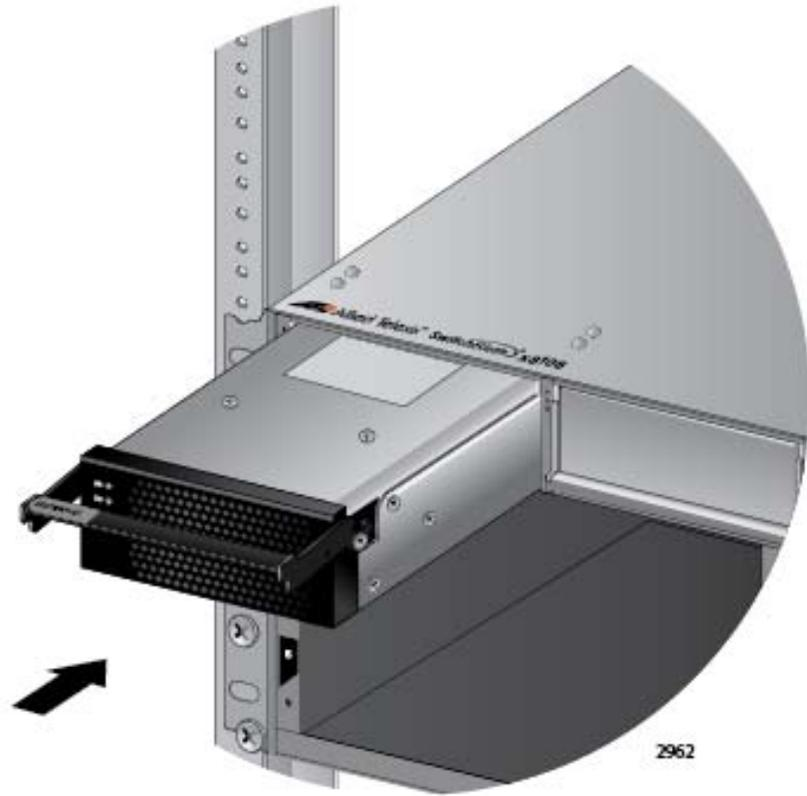

Figure 57. Inserting the AT-SBxPWRPOE1 Power Supply
6. Align and insert the AT-SBxPWRPOE1 Module into slot A or B. Figure 57 on page 101 shows the power supply module aligned in slot A.